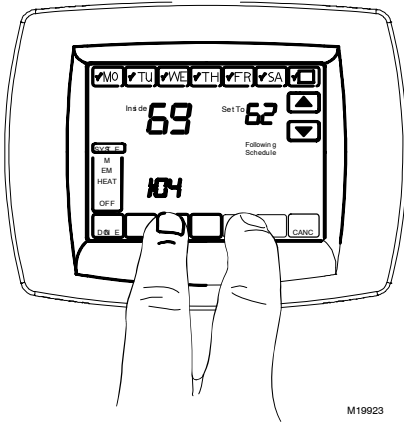

Figure 16. Entering Installer Setup.
2. Press and hold the two blank keys on either side of the center blank key for approximately five seconds (see figure 16).